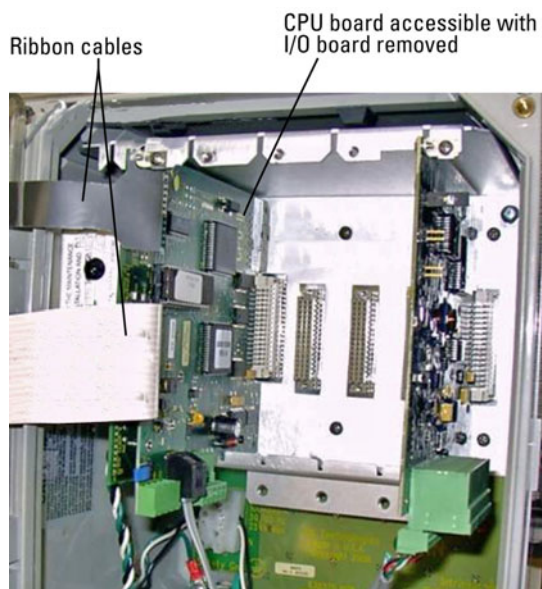

Figure 2. The CPU board and ribbon cables
3. With the I/O board removed, the CPU can now be accessed (Figure 2). Remove the retaining screw holding the CPU board to the transmitter chassis (keep this screw for later use). Hold the transmitter door so that the ribbon cables are not pulled tight. Carefully unplug the two ribbon cables from the CPU board.